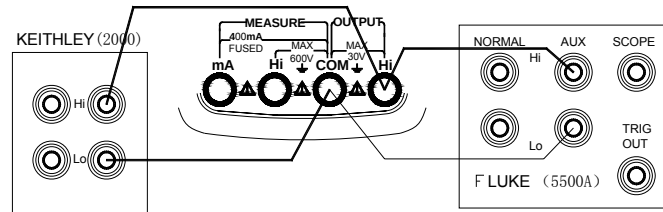

Figure 15.Ohm Calibration
1. The calibration wiring diagram is shown in Figure 15.